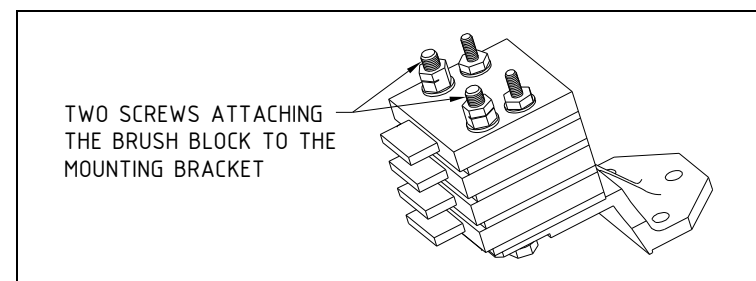

Figure 5-15
- (a) Loosen two screws attaching the brush block to the mounting bracket. Refer to Figure 5-15.